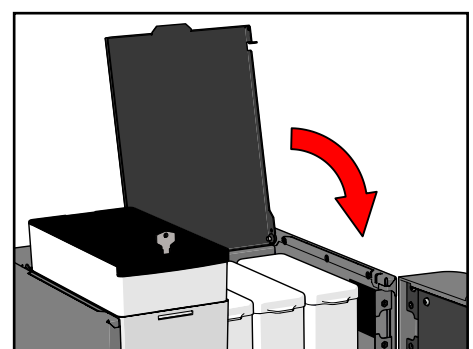

Figure 71.
6. Close the top cover (see Figure 71).